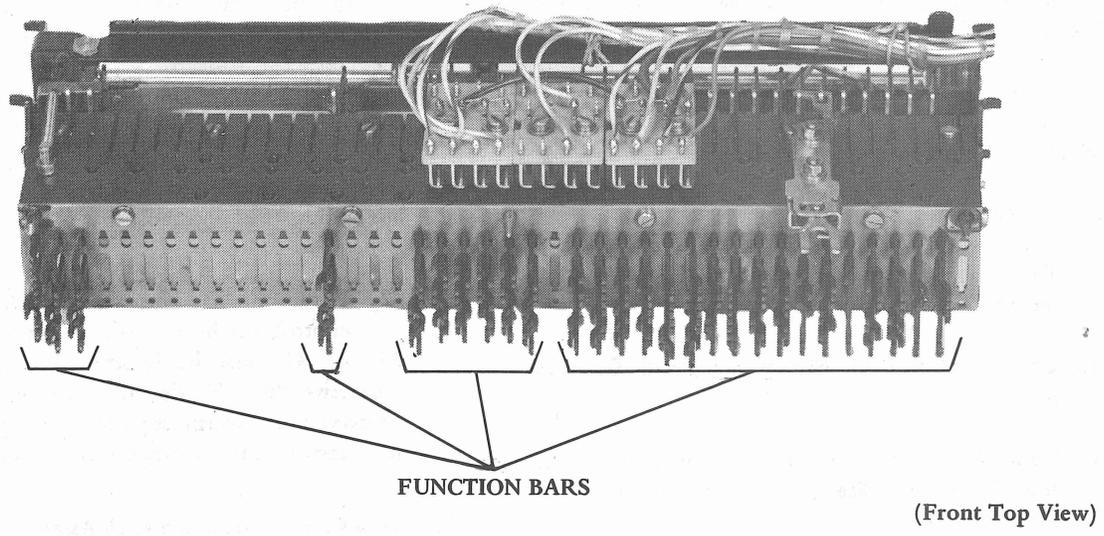

Figure 10 - Function Box
2.19 After the function box is removed from the unit (Figure 10), function bars may be removed or replaced (2.20). Function box replacement is given in 2.22.
- 2.21 Reverse the procedure used in removal (Figure 10) in 2.20.